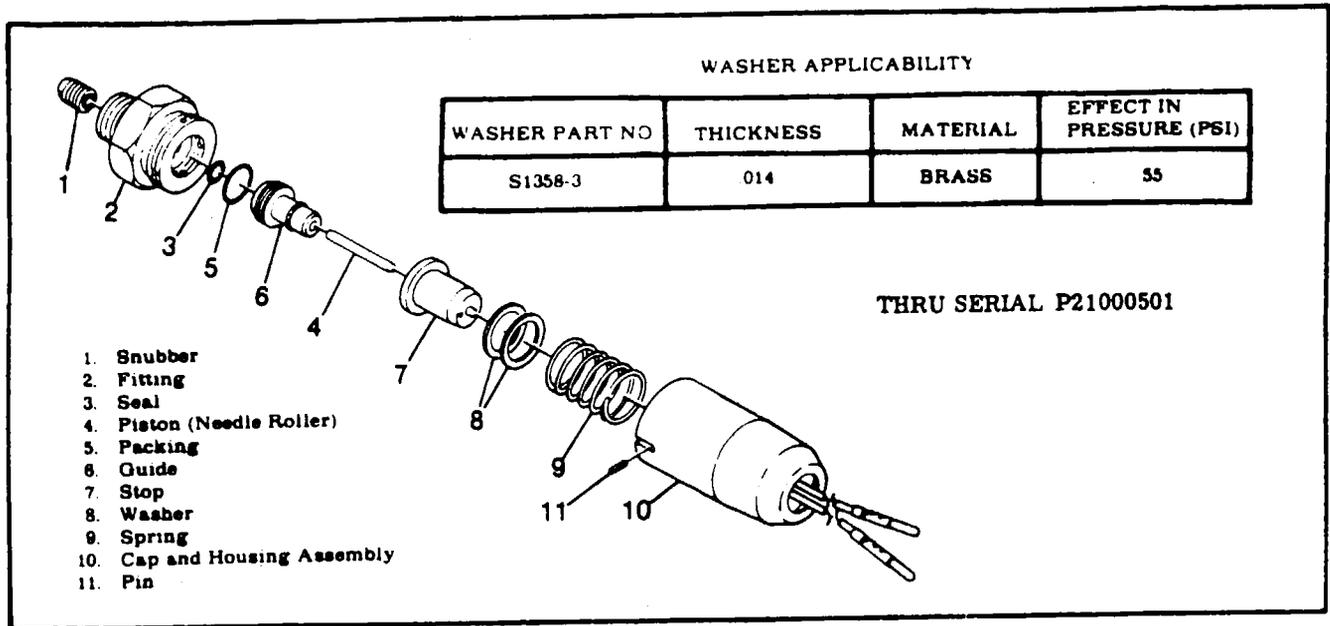

Figure 5A-5. Pressure Switch
Chart in figure 5A-5 lists washers (8) by part number, thickness and effect on operating pressure (psi).
- e. Unscrew guide (6) from fitting (2).
5A-21. INSPECTION AND REPAIR. (Refer to figure 5A-5.)
5A-22. REASSEMBLY. (Refer to figure 5A-5.)